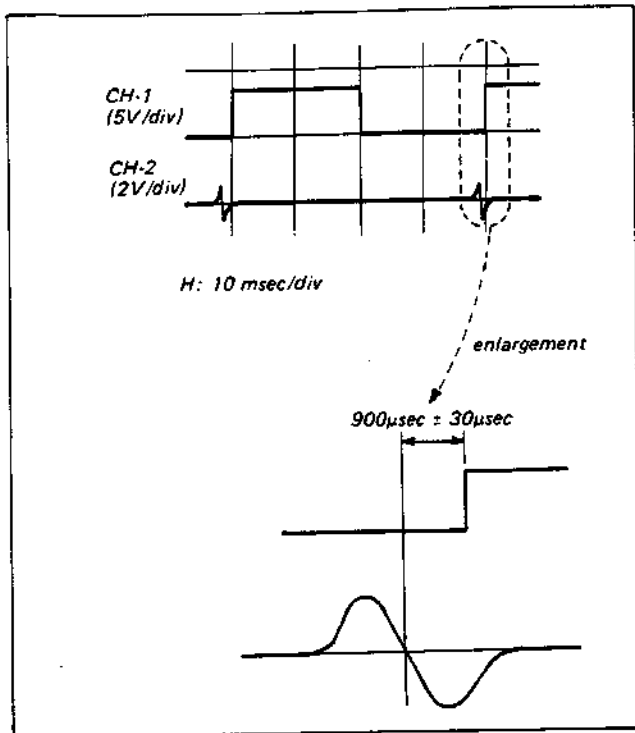

Fig. 5-7. RF switching position adjustment (1)
- i) Adjust to $900 \mu\text{sec} \pm 30 \mu\text{sec}$ with RV304 (See Fig. 5-7.)